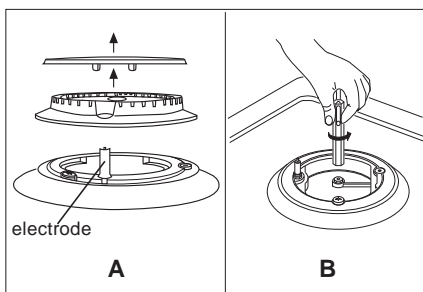

Fig. 14
**BE CAREFUL NOT TO DAMAGE THE SPARK ELECTRODE** (see fig. 14 A) .
In order to change the hob-top injectors, proceed as follows: remove the panstands, remove burner caps and crowns (see fig. 14 A) unscrew the injector (see fig. 14 B) and replace it with the stipulated injector for the new type of gas (see table D). Reassemble all of the burners, paying attention to place the burner crown carefully so as not to damage the spark electrode (fig.14 A).